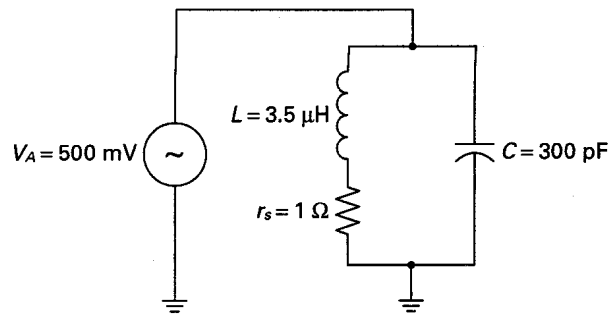

Fig. 1-25
- 1.42** In Fig. 1-25, calculate the following: (a)  $f_0$ , (b)  $X_L$  and  $X_C$  at  $f_0$ , (c)  $I_L$  and  $I_C$  at  $f_0$ , (d)  $Q$ , (e)  $Z_{\text{tank}}$ , (f)  $I_T$ , (g) BW, (h)  $f_1$  and  $f_2$  respectively.
- 1.43** In Fig. 1-25, assume that a 5 kΩ load has been placed in parallel with the tank. Calculate the following: (a)  $Q_{\text{ckt}}$ , (b) BW, (c) total line current  $I_T$ .